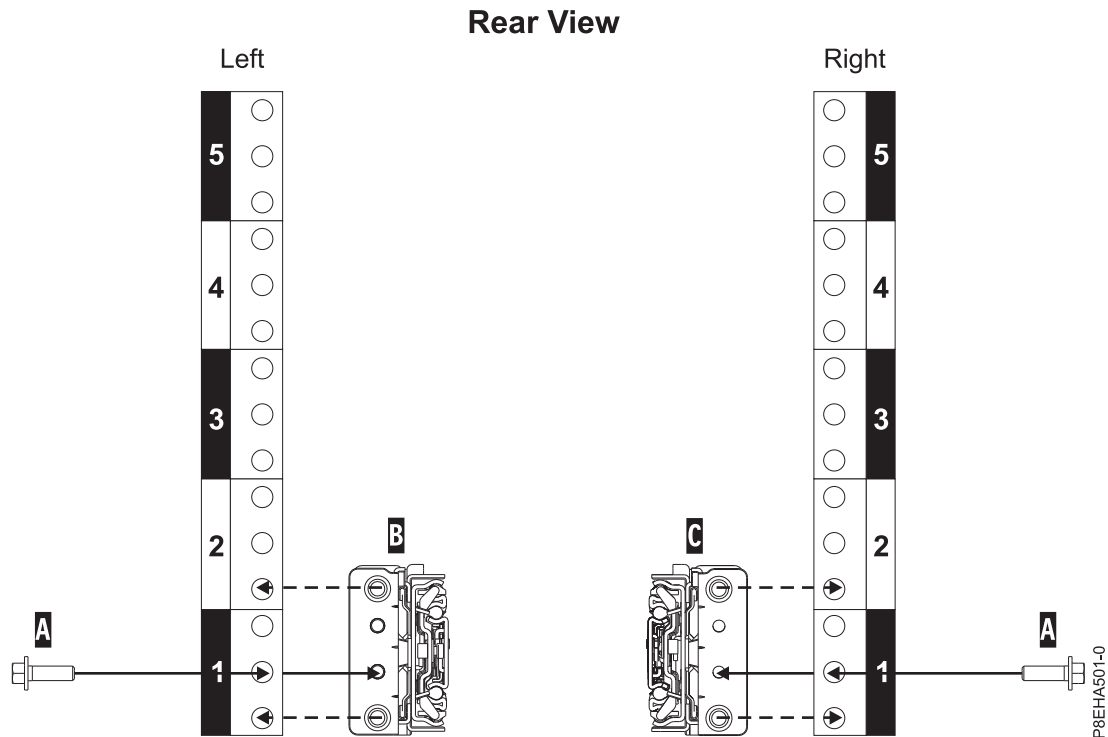

Figure 4. Attaching the slide rails at the rear of the rack
12. Secure the left slide rail (B) and right slide rail (C) with a M5x16mm screw (A) as shown in Figure 4. Insert and tighten each screw into the threaded slide flange hole, located in the middle hole of the lowest EIA rack unit.